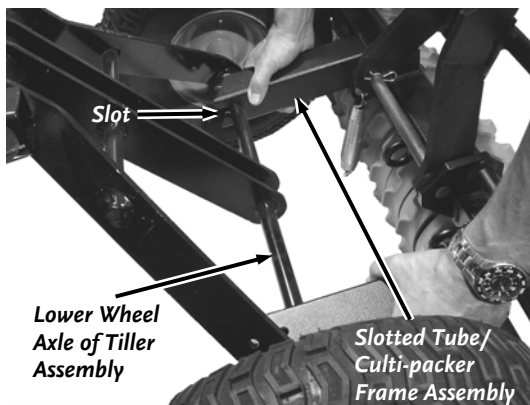

Figure 23
4. Slide the Slotted Tubes of the Frame Assembly onto the Lower Wheel Axle of the Tiller until the Axle is seated into the slot base of both Slotted Tubes (**Figure 23**).